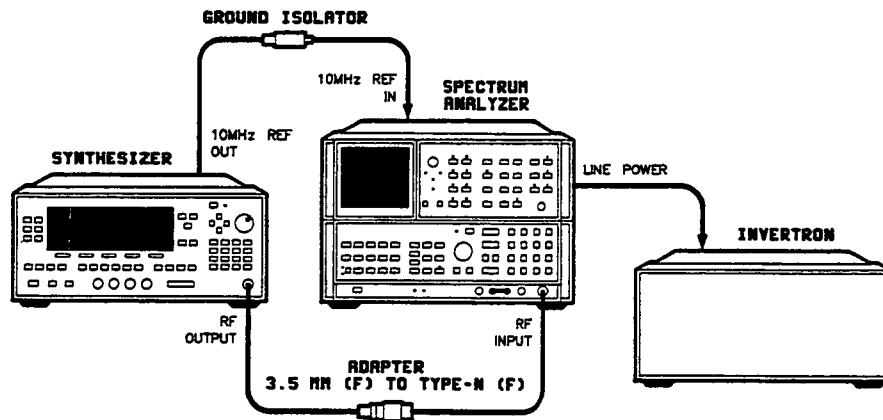

Figure 2-11. Spurious signals (Line-Related) Test Setup
2. Connect the equipment as shown in figure 2-11. Preset the instruments and let them warm up for at least one hour.